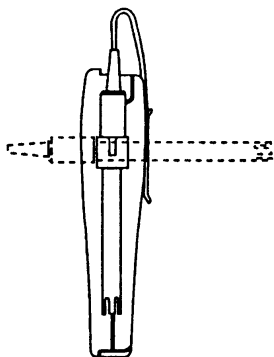

Figure 6 - Electrode can be placed in different positions with holder
3. You can attach the electrode holder in different positions. See figure 6.